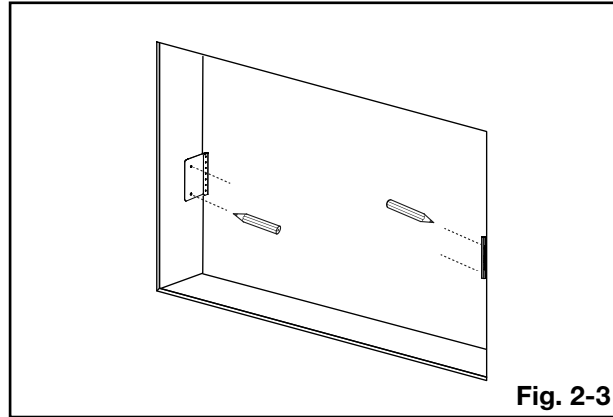

Fig. 2-3
- G. Mark the holes for the mounting bracket. Ensure the marked holes are on opposite sides, as the brackets cannot be mounted on the same side (**Fig. 2-3**).